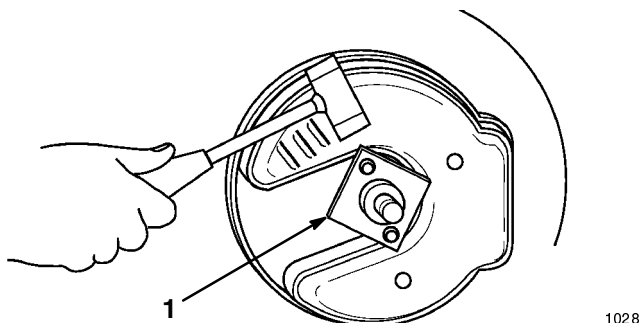

Figure 33
5. Remove the blade driver by tapping it with a plastic or fiber hammer in the direction of rotation (Fig. 33). This loosens the blade driver from the taper on the crankshaft.